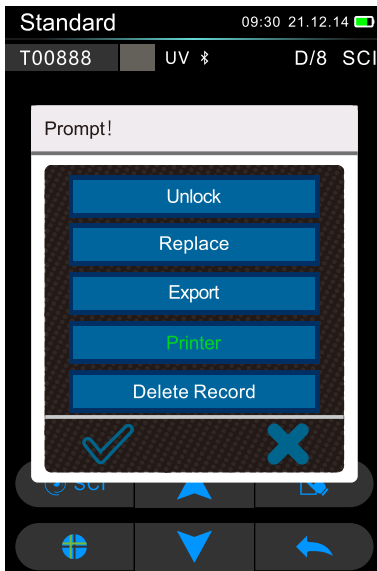

Figure 15 "Printer" operation interface
- 1, Then, click the "🖨️" icon and select "Printer" in prompt (as shown in Figure 15).